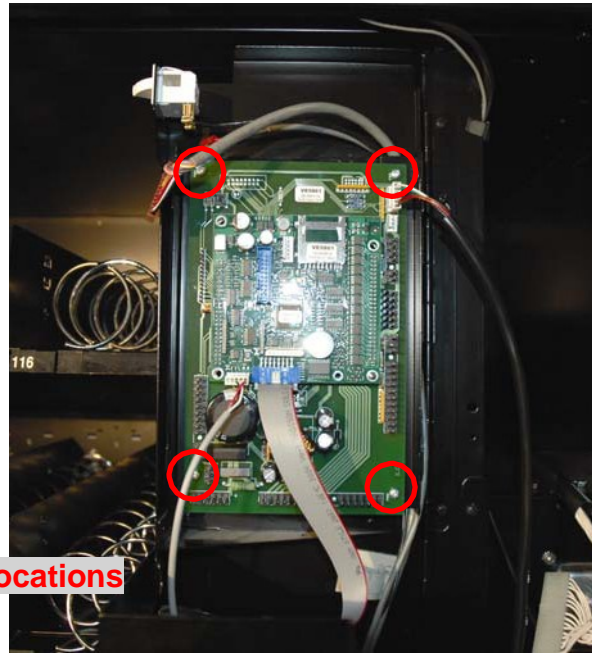

Figure 3
6. Install UCB/Harness board assembly (VE5801, VE5861, VE5816, VE5817) using the 4 – Phillips screws from the previous step as shown. See Figure 3.